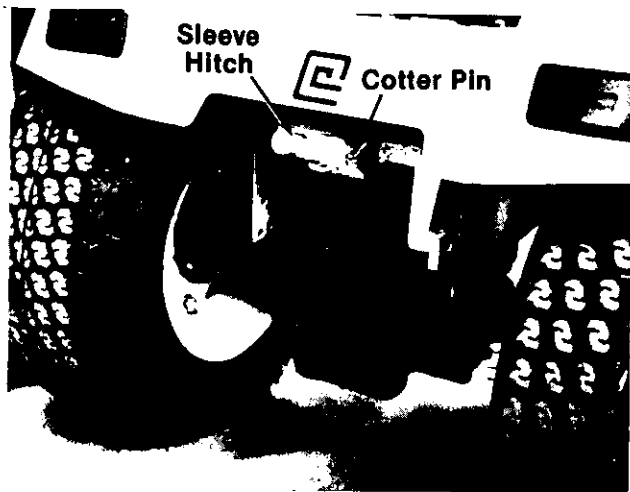

FIGURE 3.
2. Remove the sleeve hitch on tractor by removing the cotter pin. See figure 3.